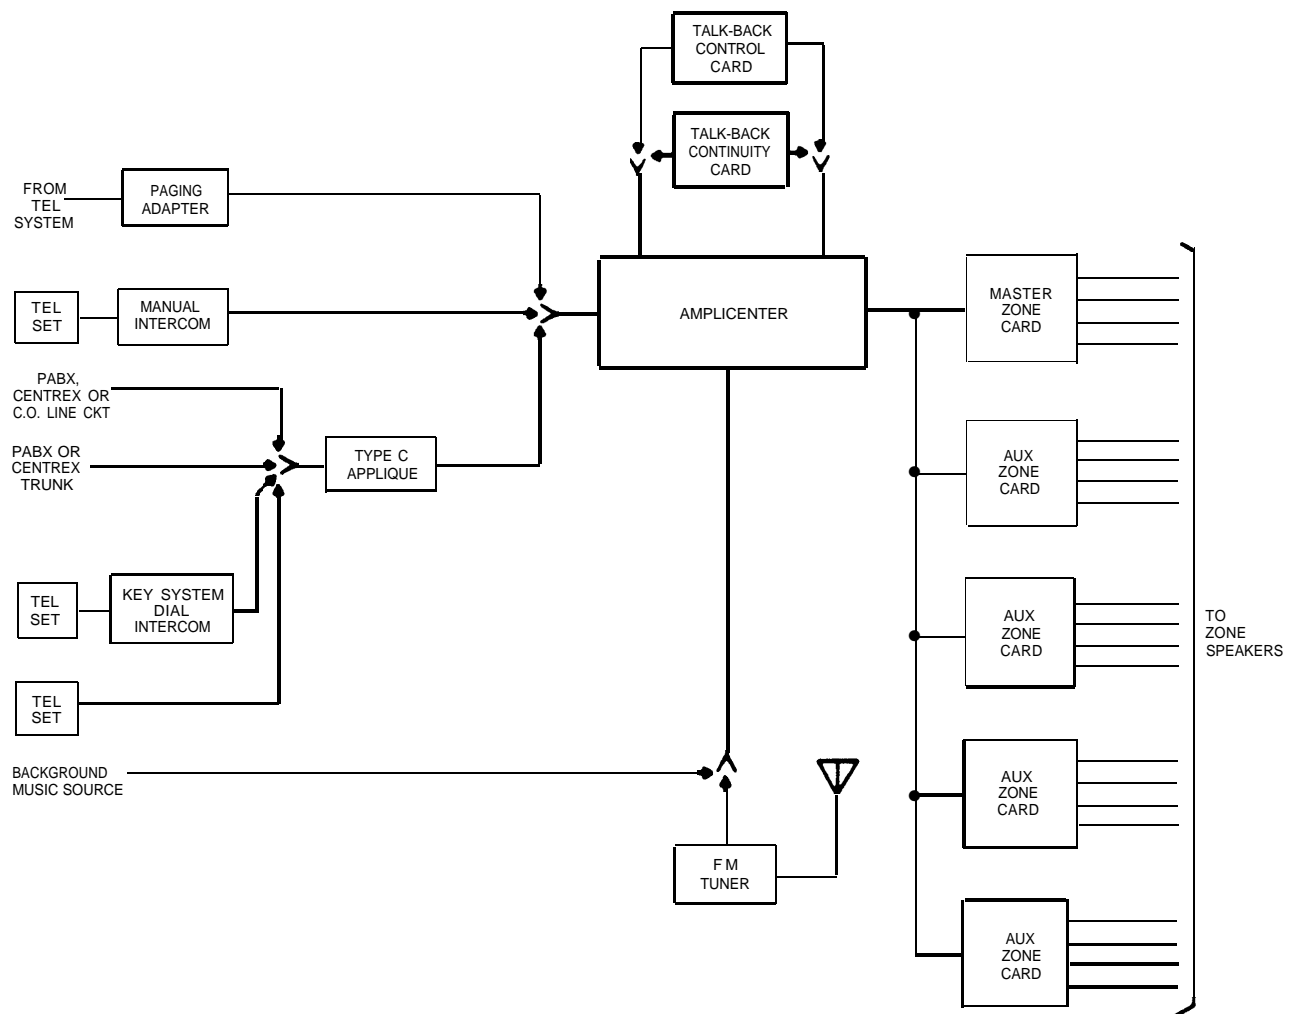

Fig. 4—System Block Diagram
3.03 All external connections to the system are performed at the connecting block on the left side of the assembly or at the terminal strip on the right side. In general, input connections from the telephone system are made at the connecting block, while output connections to the speakers are performed at the terminal strip. Fig. 4 is a system block diagram of a fully-equipped PagePac Telephone Paging System.
4.01 In the idle state, background music from either the FM Tuner card, if provided, or from an external source is applied to the AmpliCenter® via terminals **MT** and **MR** on connecting block A. Within the AmpliCenter, it passes via the music preamplifier and music page switch to the input of the power amplifier. The music is amplified and applied to the speakers of all the zones via the Master and Auxiliary Zone Card. See the system block diagram of Fig. 4.